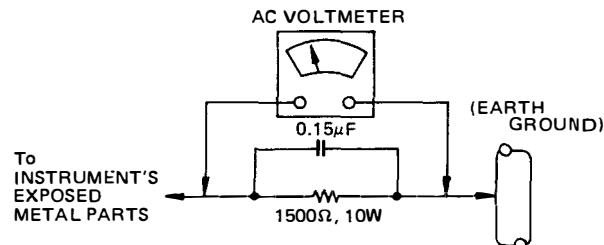

Fig. 1
- 1-5-2 Connect a 1500 ohm, 10 watt resistor, paralleled by a $0.15\mu F$ capacitor between each exposed metallic part and good earth ground (as shown in Fig. 1).